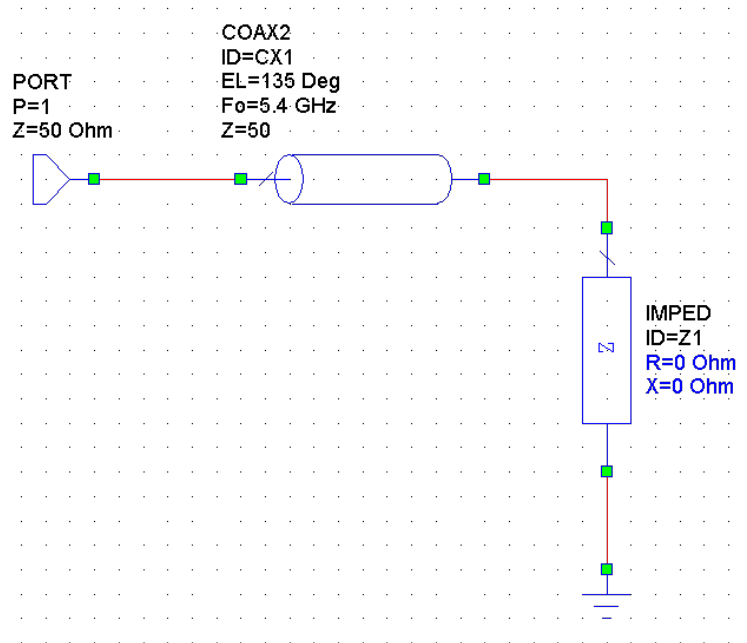

Figure 3.6: Chart 1 : Input Impedance Schematic showing Tune Tool selection of the electrical line length
- Click the R and X parameters of the IMPED element. They should turn blue. See figure 3.6